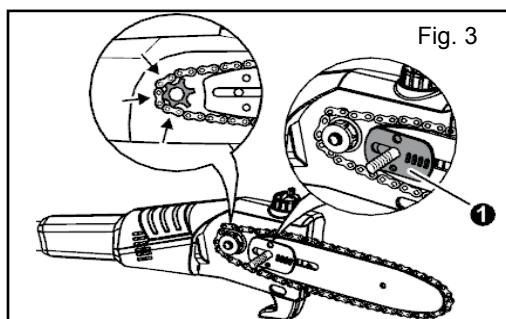

Fig. 3
NOTE: Ensure that the chain tensioning plate points forward (Fig. 3 ①).
- Check the position of the bar and chain on the tool (Fig. 3).